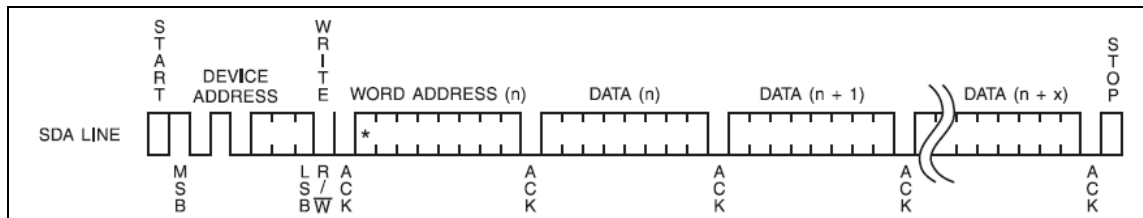

Figure 36 – EEPROM Page Write timing
- Write a subroutine called `EEPROM_Page_Write` that writes your group ID in 4 digits into the EEPROM address 0x00 to 0x03 using the page write method. The timing diagram is shown in Figure 36. Change the MainLoop so that pressing P7 will call `EEPROM_Page_Write` instead of `EEPROM_Write`. Provide a screen capture from the logic analyzer.
- (Optional) Write a subroutine called `EEPROM_Page_Read` that reads the contents stored in memory location 0x00 to 0x03 of the EEPROM by using the page read method. The timing diagram is shown in Figure 36. Change the MainLoop so that pressing P8 will call `EEPROM_Page_Read` instead of `EEPROM_Read`. Verify the digits of your group ID are successfully retrieved. Provide a screen capture from the logic analyzer.